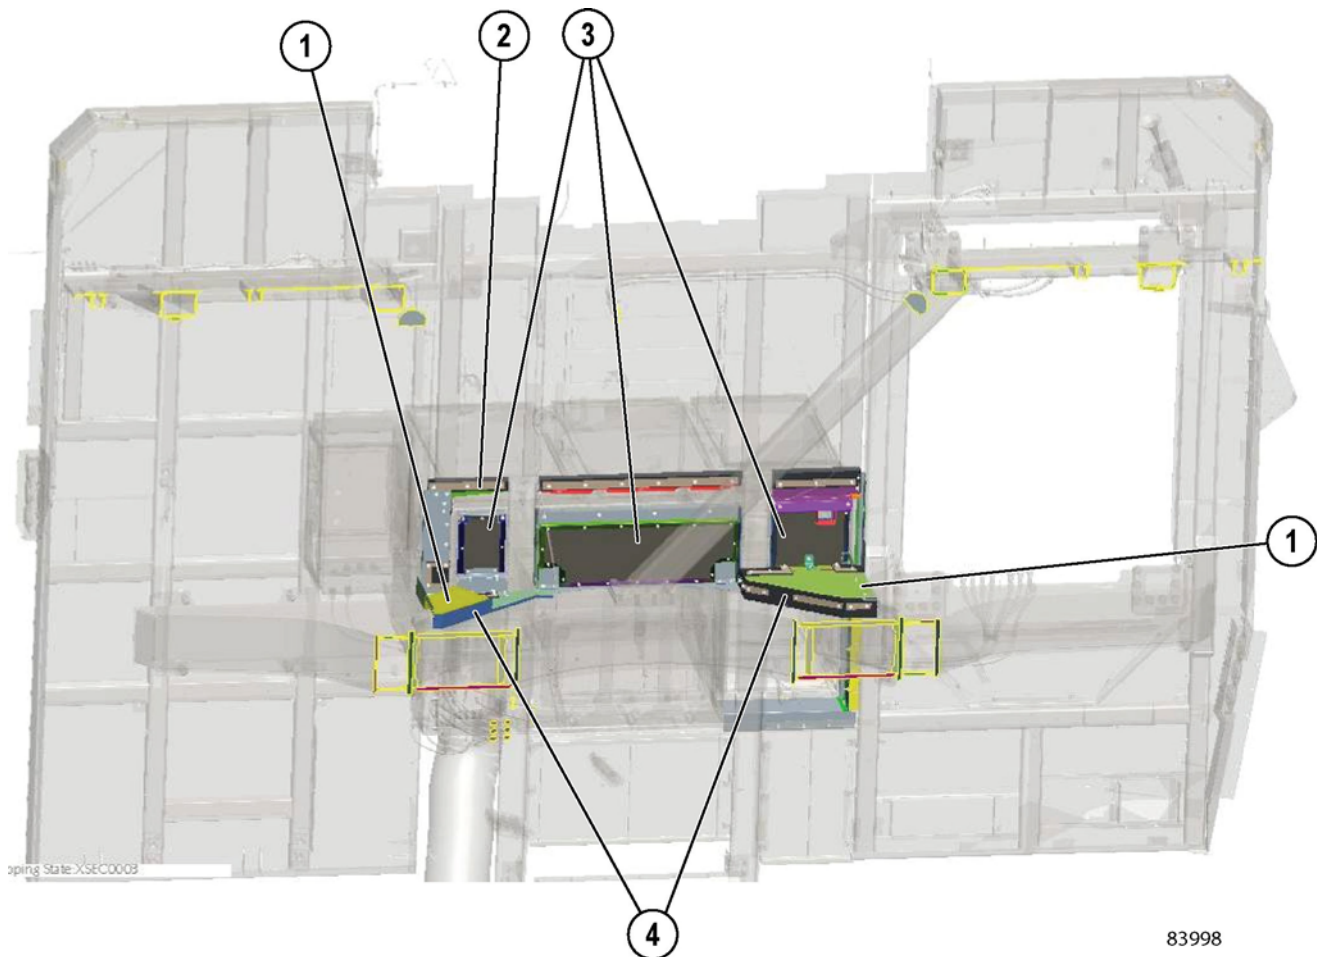

FIGURE 30-12. UPPER HORSE COLLAR PANELS
Acoustic panels (3, Figure 30-12) sheet metal (1) and seals (2) and (4) have been fitted under the control cabinet and around the top of the horse collar.